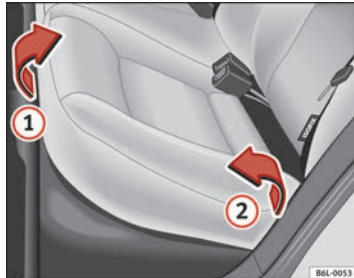
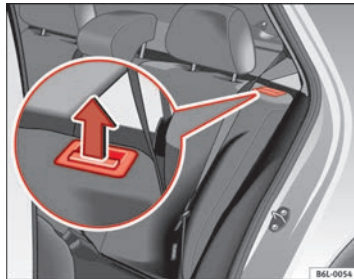

Fig. 73 Folding up the rear seat cushion
Fig. 74 Button for unlocking the rear backrest
- Pull the front edge of the seat cushion ⇒ Fig. 73 ① upwards in the direction of the arrow.
- Lift the cushion ② forwards in the direction of the arrow.
- Pull the release button ⇒ Fig. 74 in the direction of the arrow and fold the backrest forwards.